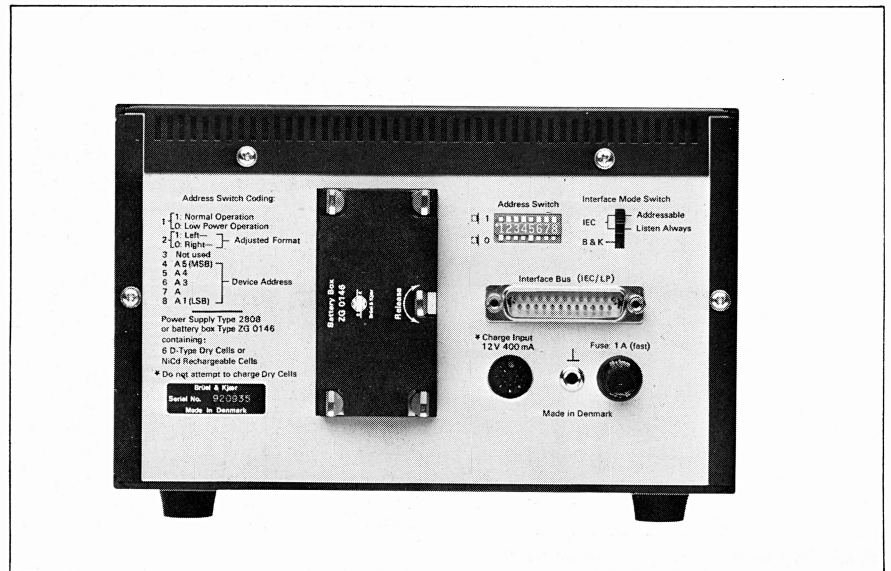

Fig.2. The rear panel of the Type 2312
1) **Addressable** mode, the IEC 625-1/IEEE Std 488 Interface operates with byte-serial transfer of data controlled by three lines operating in the "three wire handshake" mode. The device can be individually addressed by an external controller connected to the Interface Bus. The address is set on a switch array on the rear panel (see Fig.2).